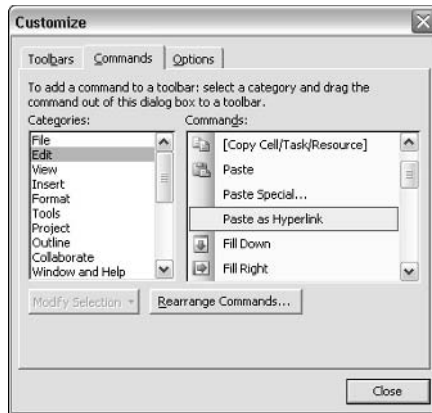

Figure 23-22: These categories of commands contain all the possible tools that are built into Project.
3. Click the Commands tab, as shown in Figure 23-22.